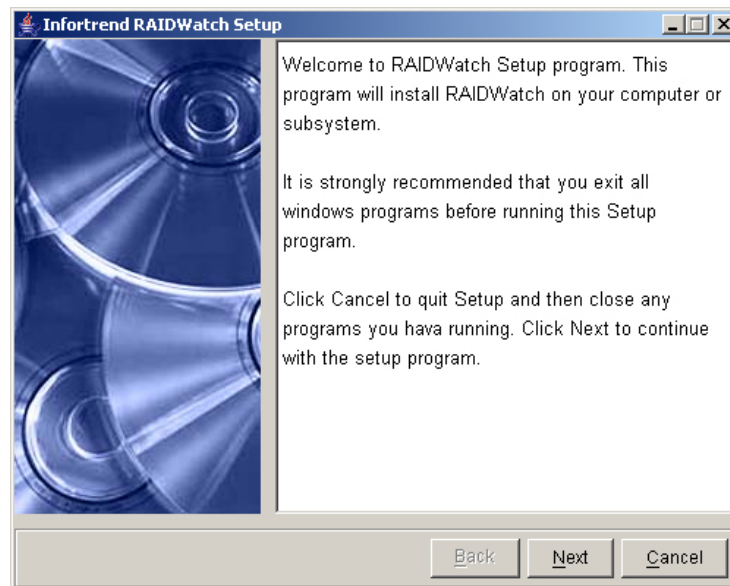
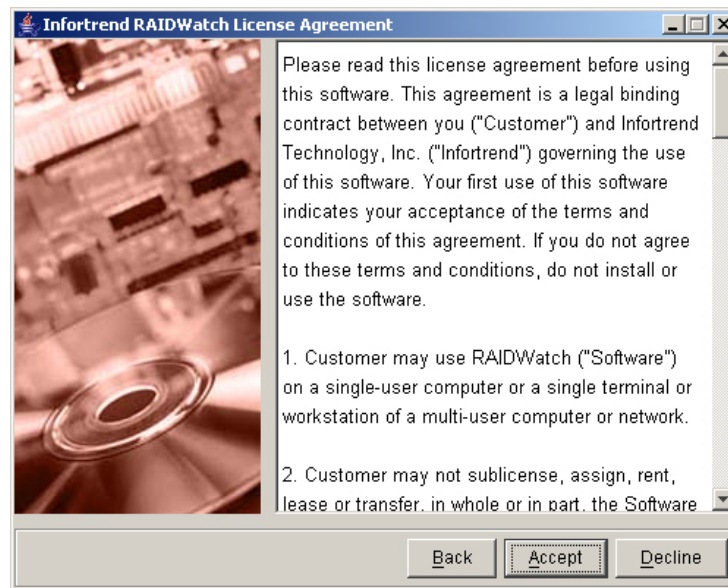
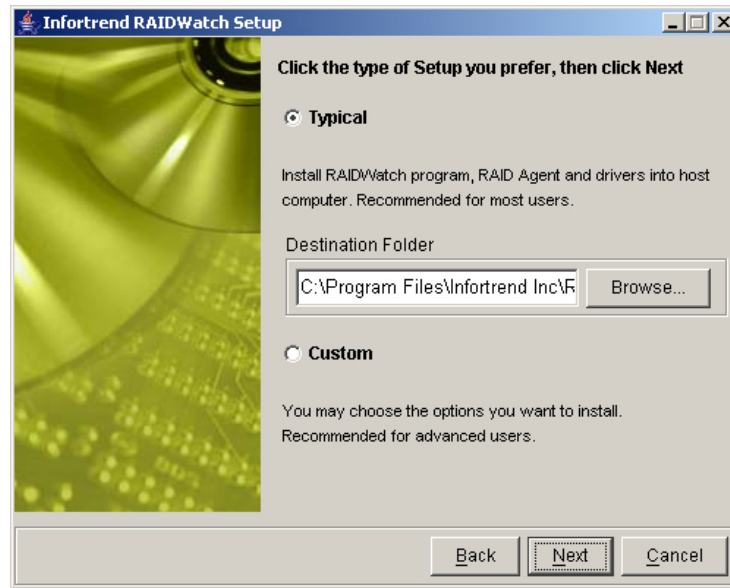

Figure 3-5: Welcome to the Install Shield Window
Figure 3-6: License Agreement
Figure 3-7: Choose an Installation Mode
-  **Step 2.** If you selected the *Next* button on *Figure 3-5*, the License Agreement window seen in *Figure 3-6* will appear. First read through the License Agreement. If you are in agreement with the specified terms and wish to continue installing the RAIDWatch program, select *Accept*. If you do not wish to continue with the installation process then select the *Decline* button.
**Step 3.** If you accepted the License Agreement in *Figure 3-6*, a new window with two installation options will appear. These options, shown in *Figure 3-7*, are *Typical Install* and *Custom Install*. The default is set to *Basic Install*. All users are recommended to install RAIDWatch program using the default settings. This will create a new “Infortrend Inc” folder on the computer chosen as a management center. If you want to install RAIDWatch in a different folder, type in a new location or click the *Browse* button to select a destination folder. If you follow the default selection and click the *Next* button, the install shield will start install the RAIDWatch software, RAID Agents, and necessary drivers on the computer.